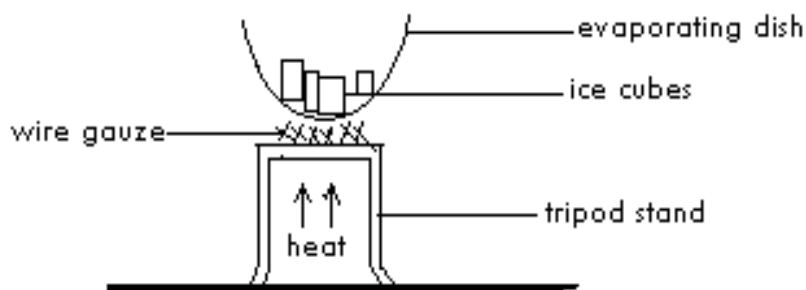

Figure 3.1: Showing the set up of the experiment
3. Arrange the apparatus as shown in Figure 3.1 and gently heat the evaporating dish. Stop heating when all the ice has **just** melted (turned to liquid).